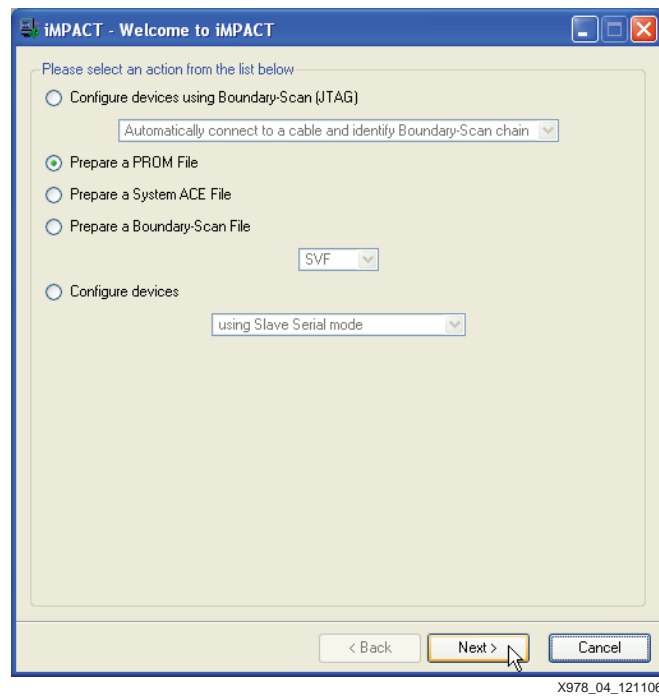

Figure 14: Welcome to iMPACT Screen
3. In the Welcome to iMPACT dialog box, select the **Prepare a PROM file** option, as shown in Figure 14. Click **Next**.